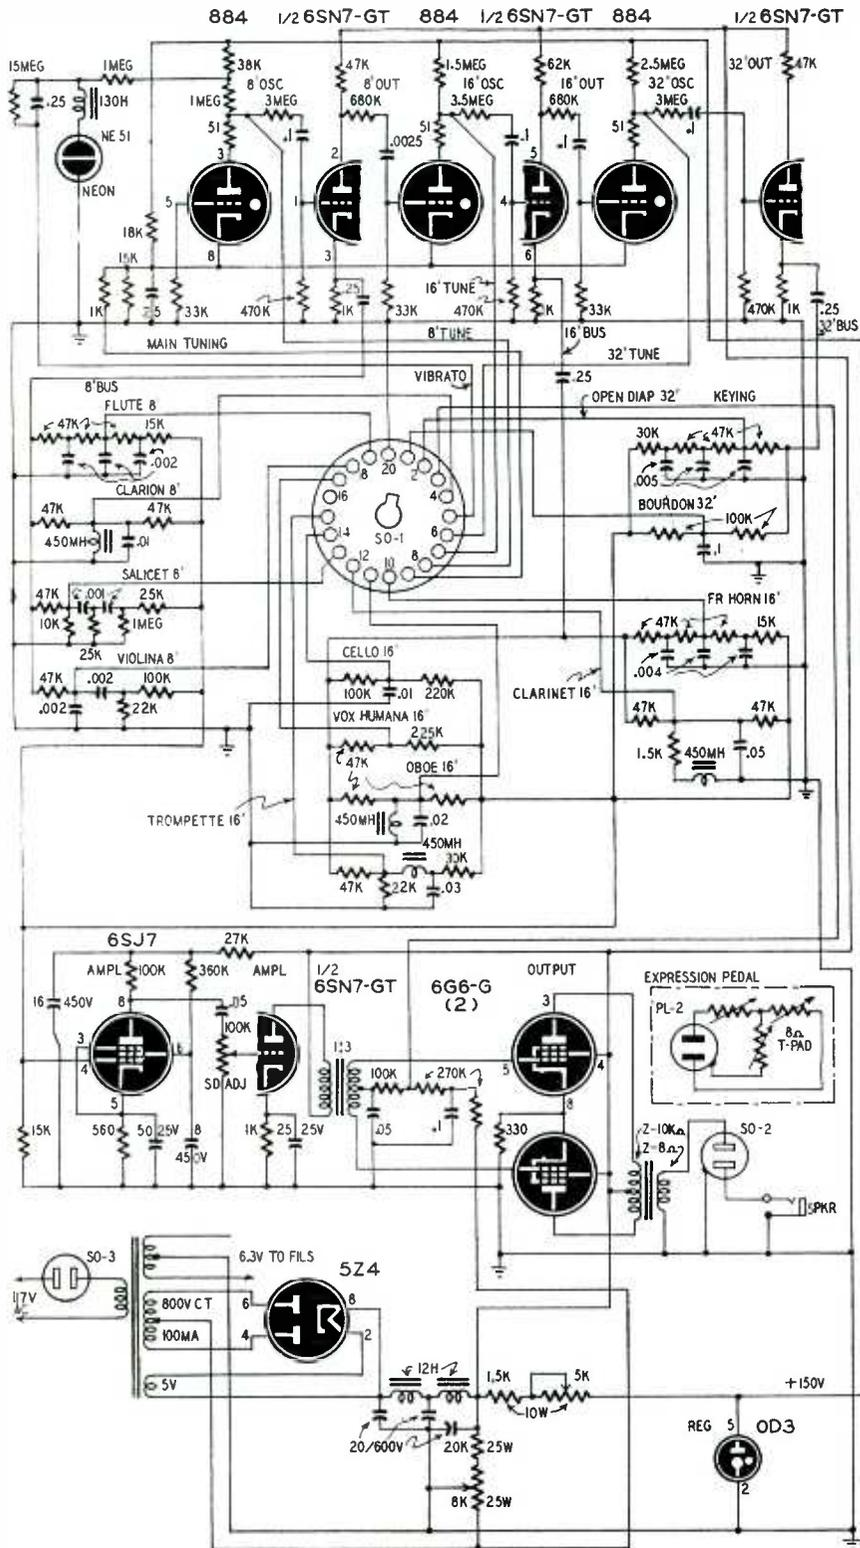
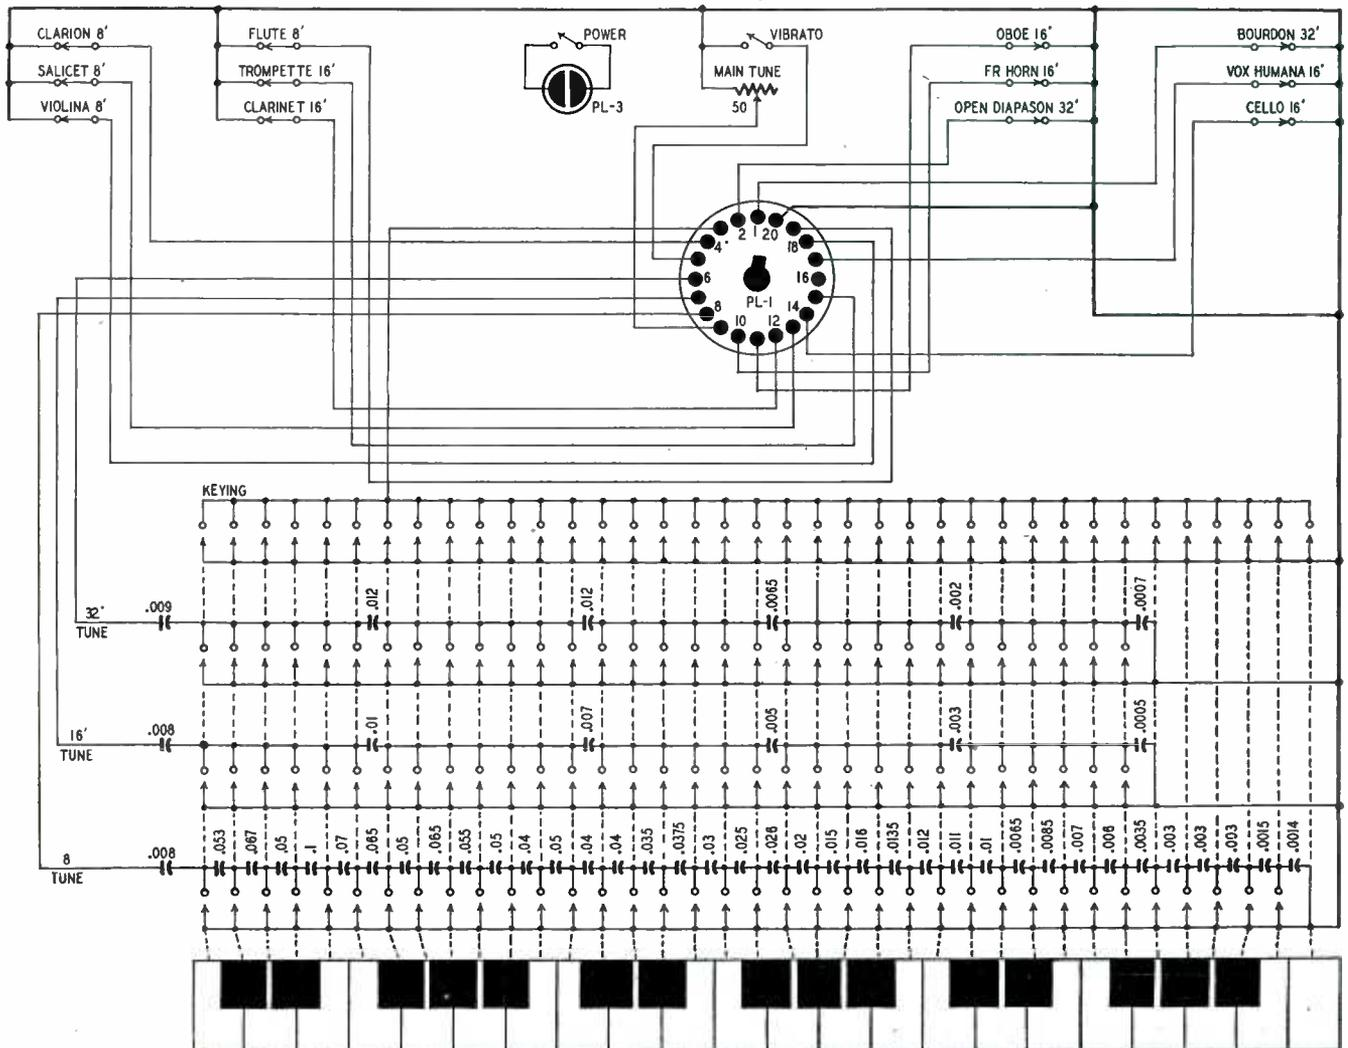
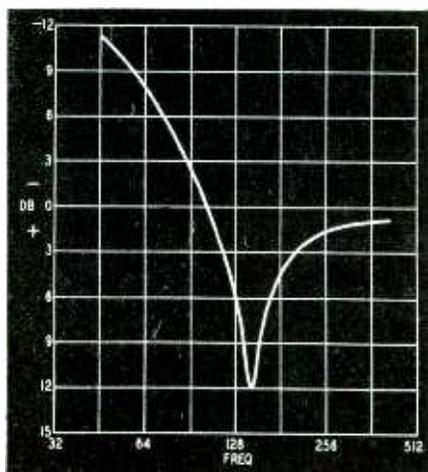

Fig. 2—Main circuit of the Thyratone, including amplifier and power supply.
Fig. 3—The keyboard unit tunes the tone generators and controls the tone colors. A cable connects it to main chassis.
Fig. 8—A curve of this type is plotted by using the circuit of Fig. 7. In this case stability margin is 12 db.
The diagram of the main chassis is given in Fig. 2. Each of the three 884's is used in much the same way as it would be for the sweep oscillator of an oscilloscope. A lead from the plate of each is brought to the keyboard unit, diagrammed in Fig. 3, where it is connected to one end of a string of capacitors. Pressing a key grounds the string at some point, giving a certain net capacitance between plate and ground to tune the oscillator.
The 8-foot oscillator is the "master." Its string has one capacitor for each note. When the junction between the leftmost capacitor and the next one (Fig. 3) is grounded, there is maximum capacitance between plate and ground, and the lowest 8-foot tone (middle C) is produced. When the next key is pressed, there are two capacitors in series between plate and ground, resulting in a lower net capacitance and raising the pitch. When no keys are pressed, the capacitance is the series net of all the units in the string, giving the highest tone. This system avoids off-color tones caused by accidentally pressing two keys at a time. With the
Since it is very difficult to represent this exact arrangement in a schematic diagram, the system of representation as in Fig. 3 is used. The four arrows for each key connected with a dashed line represent the single grounded metal strip. The small circles connected to the capacitors represent contact springs.
The output from the plate of the 8-foot 884 generator (Fig. 2) is connected to the grid of one triode of a 6SN7-GT amplifier through a 3-megohm attenuating resistor and a 0.1- μ f blocking capacitor. Output is taken from the unbypassed cathode of the 6SN7-GT
Referring again to Fig. 3, note that in the 16-foot string there is not a capacitor for every note but only one for every six or seven notes. This saving in capacitors is allowed by the fact that the 16-foot generator is synchronized. For each group of six or seven notes, the natural frequency of the oscillator is made slightly higher than the highest note; when the synchronizing voltage is fed to the 884 grid from the 6SN7-GT the frequency is brought to exactly one octave below the 8-foot tone. For greater stability, constructors may find it wise to use a few more capacitors, say one for every four notes.
To have something concrete to talk about, a typical high-end-response characteristic has been constructed, and is shown as Figs. 1 and 2. According to what we have seen in the earlier articles, the permissible feedback for an amplifier with this characteristic would be about 18 db, giving a phase margin of 25° and a gain margin of 6 db. The important part of the Nyquist diagram is plotted as Fig. 3.
Now draw a line OP, such that angle $XOP = 100^\circ$, and fix P on this line at the 7.5 db level. This is actually at a radius of 0.422×20 cm (The 0.422 comes from the voltage ratio-decibel table to be found in most reference books, e.g., Terman's *Radio Engineers' Handbook*, page 1). The point P therefore corresponds to the amplitude and phase given in Figs. 1 and 2 at a frequency of 50. This we plot in Fig. 3. Repeating the process at 6, 12, 18 and 24 db we have enough points to plot the solid line. On a larger scale we can draw the dashed line, for which the original zero circle, if I had drawn it, would have had a radius of 160 cm. Going back to the full line, which is part of the Nyquist diagram—the rest, over on the left, does not concern us—we see that it crosses the 180° axis, OY, at the point L where the response is 24 db down.
● Fig. 3—This Nyquist diagram is a phase-amplitude curve on polar coordinates. Significant portion of curve only is shown.
The important idea which Duerdoth has introduced is this: it is not just the pair of points L and M in Fig. 3 which matter, but how close the curve gets to N. The two points define the gain margin (L) and the phase margin (M), but the same values of these quantities would be given by the little dotted pimple on this curve. Yet an increase of gain of 0.1 db, and 1° of phase, would make the dotted loop encircle N.
In Fig. 3, the distance OP is βK , and OP is actually a vector, which includes the phase of K (and of β , if the feedback path is not a pure resistance network). By taking the right account of the signs, and doing a little vector mathematics, we can show that $NP = 1 + \beta K$, so that the length NP is the ratio of the gain without feed-
illator is set to some frequency at the edge of the band, and the meter sensitivity adjusted to give a reading in the middle of the scale. A good way to decide where to start is to increase the feedback until the amplifier sings, and find the singing frequency. Then work down from this frequency (point L in Fig. 3). It is a good idea to add an oscilloscope to make sure that the amplifier is not overloaded. Then operate the switch, and note the change of meter reading. Repeat this procedure at a number of different frequencies until the peak has been located. I generally plot the results, giving the sort of curve shown in Fig. 8. There is not much advantage in doing this with a sharp peak, which can easily be located, but if the peak is a very flat one, as it is with exceptionally stable amplifiers, the stability margin curve is rather useful.